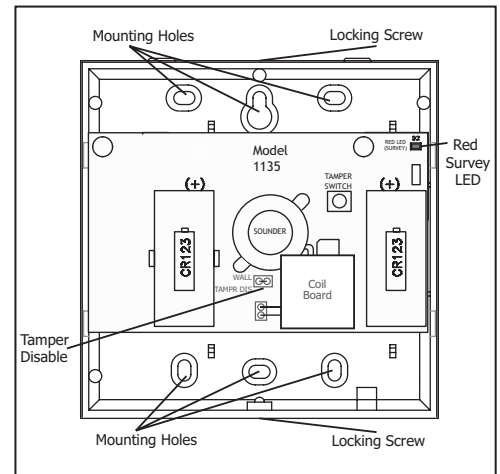

Figure 2: Survey LED and Mounting Holes
The 1135DB provides a survey capability to allow one person to confirm communication with the receiver while the cover is removed. The 1135DB PCB Red Survey LED (See Figure 2) turns on brightly whenever data is sent to the receiver then immediately turns off when the receiver acknowledgement is received. Pressing the tamper switch is a convenient way to send data to the receiver to confirm operation. When the 1135DB does not receive an acknowledgement from the receiver the survey LED remains on for about 8 seconds to let you know communication is not established. Communication is also faulty when the LED flashes brightly multiple times in quick succession. Relocate the 1135DB or receiver until the LED immediately turns off when tampered indicating the 1135DB and receiver are communicating properly. Proper communication between the 1135DB and receiver is verified when for each press or release of the tamper switch, the LED blinks immediately on and immediately off.
2. Mount the 1135DB on a flat wall ensuring that the wall tamper switch makes proper contact with the wall. Use the supplied screws in the mounting hole locations as shown in Figure 2, or use the supplied double-sided tape. Mount the siren away from metal objects. Do not install the 1135DB within 4 feet of the panel as the RF gain of the transmitter may inhibit proper communication.
4. Place the two CR123 batteries in the holders and press into place. See Figure 2 for battery location.